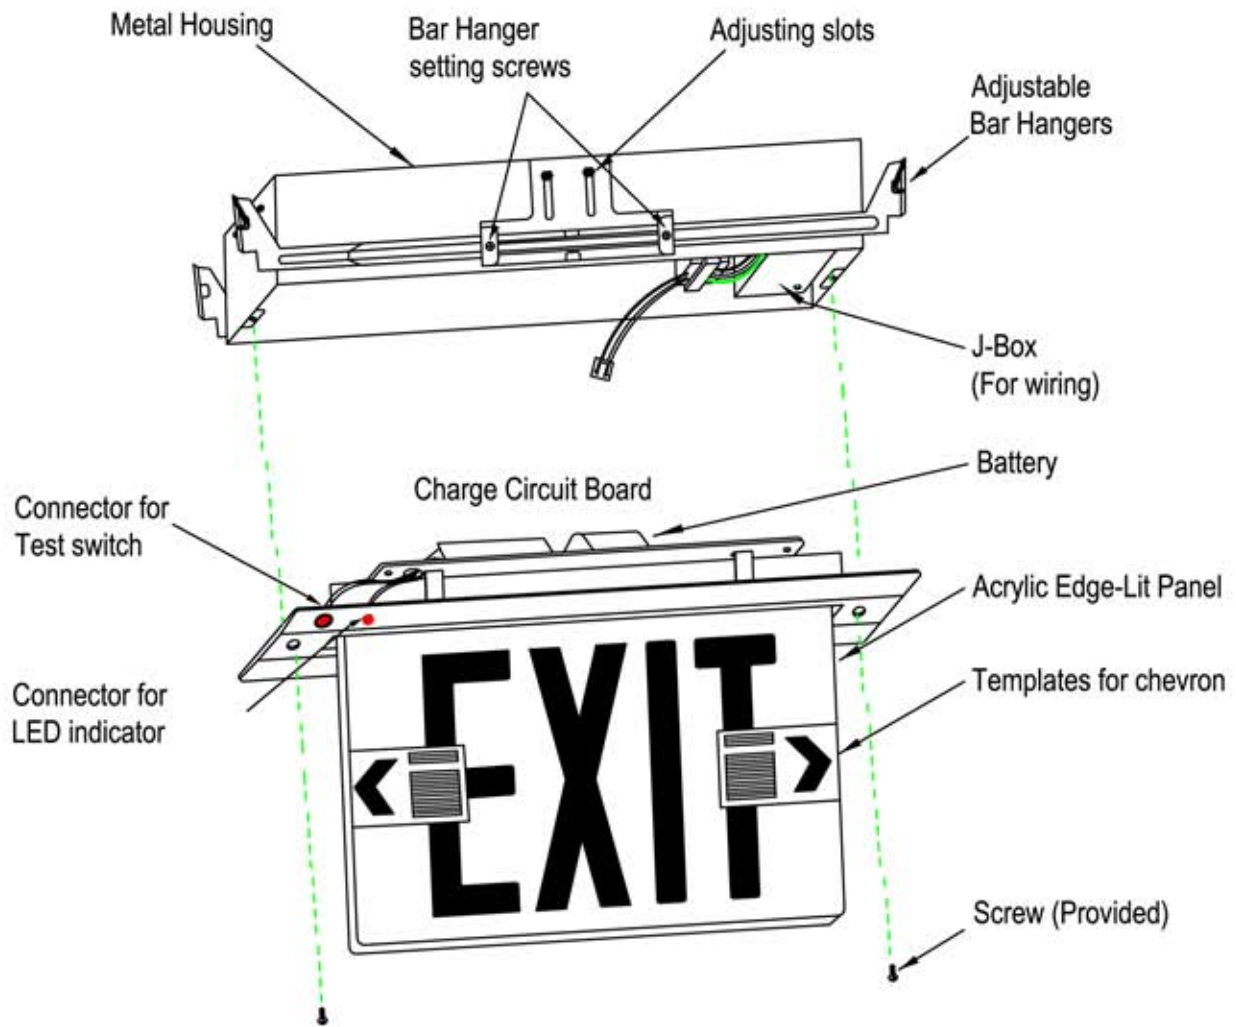

Fig. 1
1. Refer to Assembly drawing (Fig. 1) before starting installation.